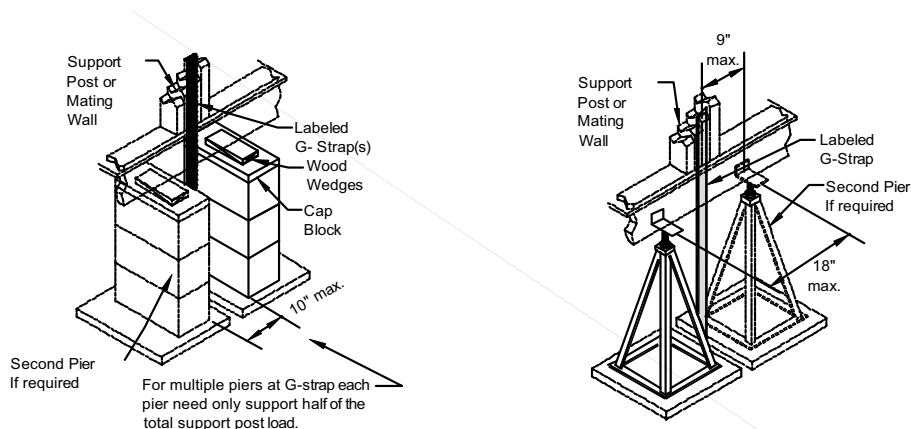

Figure 16. Piers at Support Posts (with G-Strap)
- For multi-section units, the mating line piers may need special solutions. If a G-strap occurs at a support post, the piers can be arranged as shown in **Figure 16**. If the loads at the support post are large enough, it may be necessary to use double piers as shown in **Figure 17**. If a G-strap occurs where double piers are used, it may be necessary to add support beams as shown in **Figure 18**.